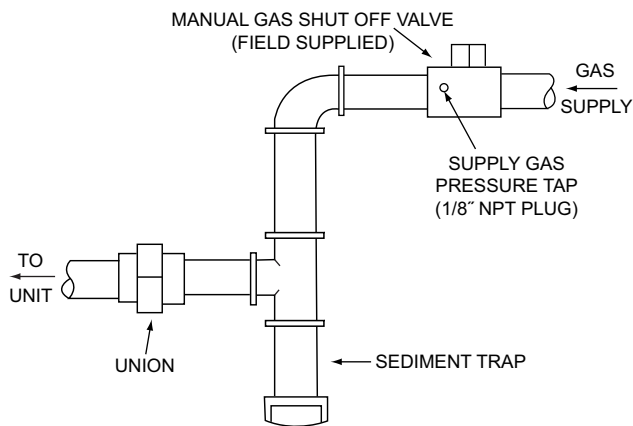

Fig. 9 - Field Gas Piping
2. Connect a pressure gauge to the supply gas pressure tap, located on the field-supplied manual gas shut off valve (see Fig. 9).